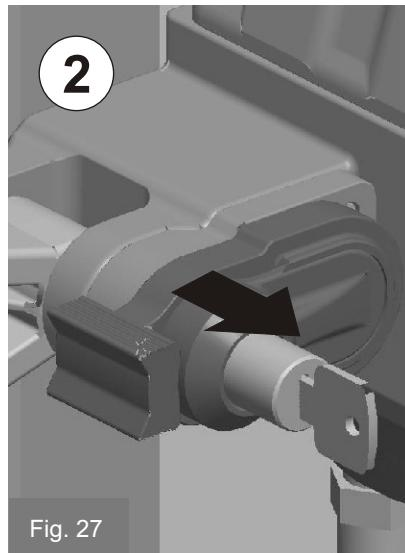

Fig. 27
2. be sure that the lock cylinder is completely out (Fig. 27).